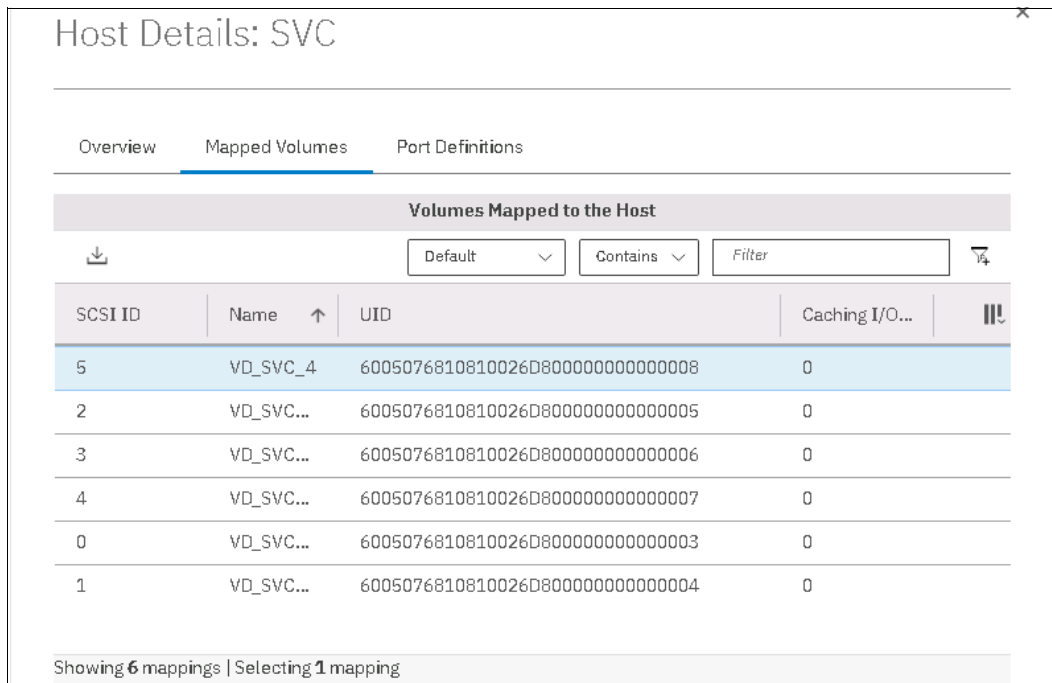

Figure 4-14 FlashSystem volume details for host maps
2. On the Host Maps tab (see Figure 4-14), check the SCSI ID number for the specific volume. This value is used to match the virtualizer ctrl\_LUN\_# (in hexadecimal format).